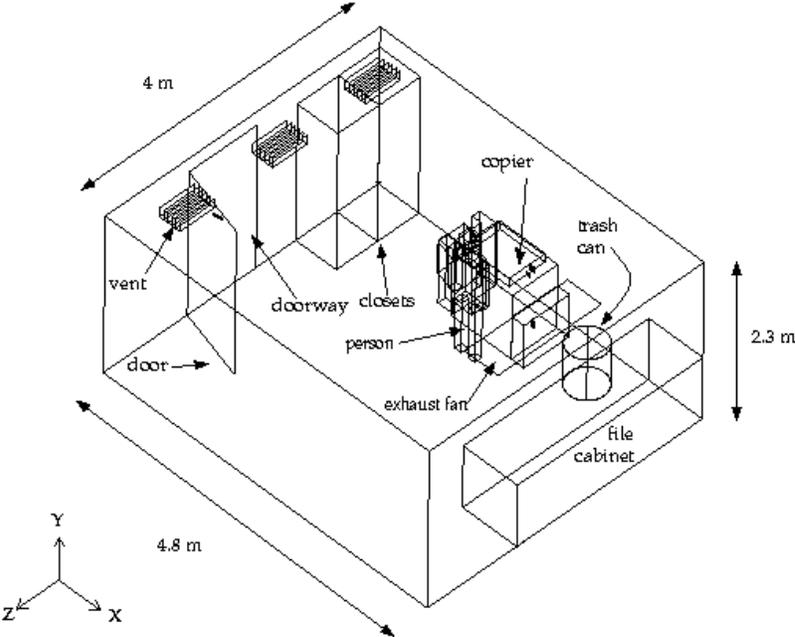

Figure 3.1: Problem Specification
**Problem Description:** The room, shown in Figure 3.1, contains a copier with rear sources that emit waste gases. Other objects in the room include a person, a trash can, a file cabinet, closets, and exhaust vents. The goal of the simulation is to report on the concentration of total volatile organic compounds (VOCs). VOCs, which normally are gaseous hydrocarbons, are criteria pollutants that can be found in all non-industrial environments. These chemicals are produced by a wide range of sources, and are of particular interest in addressing indoor air quality (IAQ) concerns.